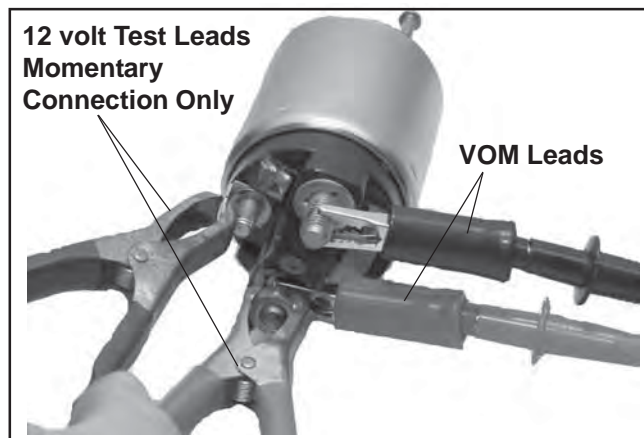

Figure 8-29. Testing Pull-In Coil/Solenoid Contact Continuity.
Use an ohmmeter set to the audible or Rx2K scale, and connect the two ohmmeter leads to the two large post terminals. Perform the preceding test (1) and check for continuity. See Figure 8-29. The ohmmeter should indicate continuity, if no continuity is indicated the solenoid should be replaced. Repeat test several times to confirm condition.